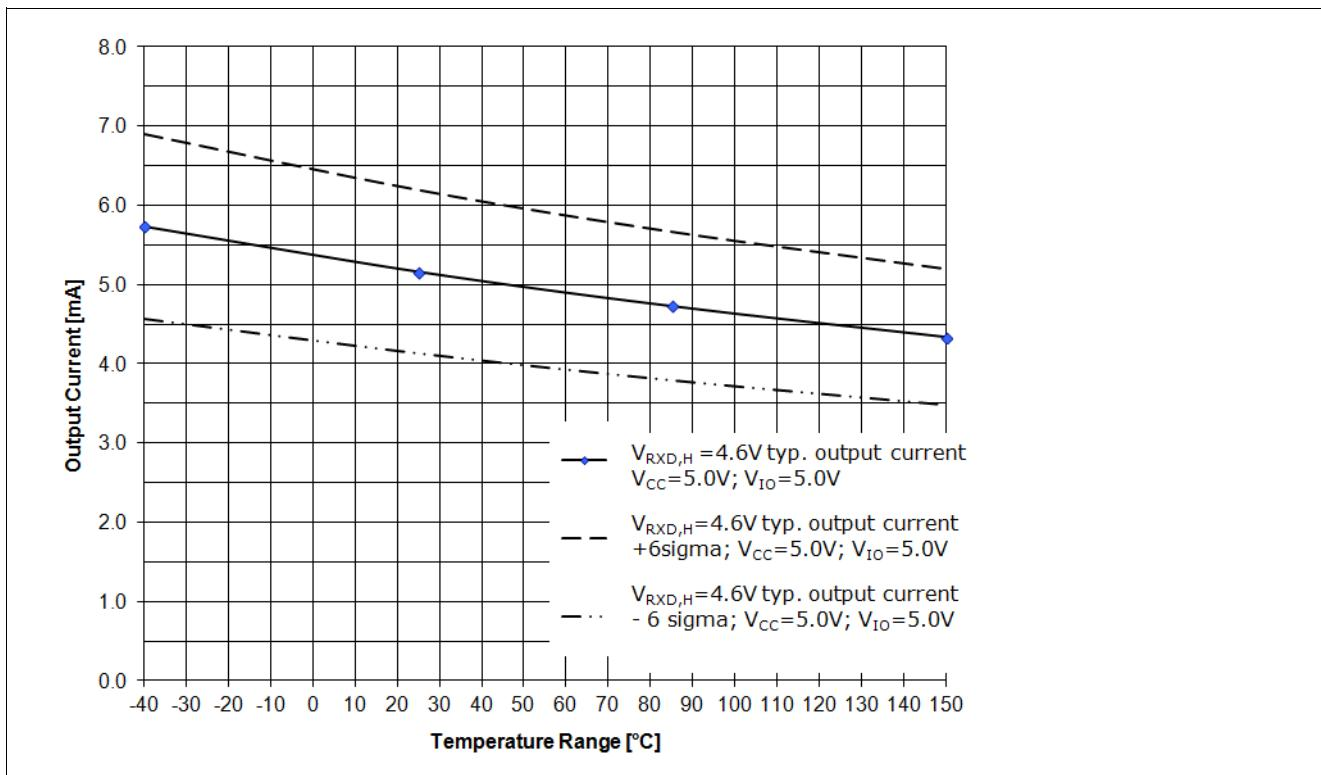
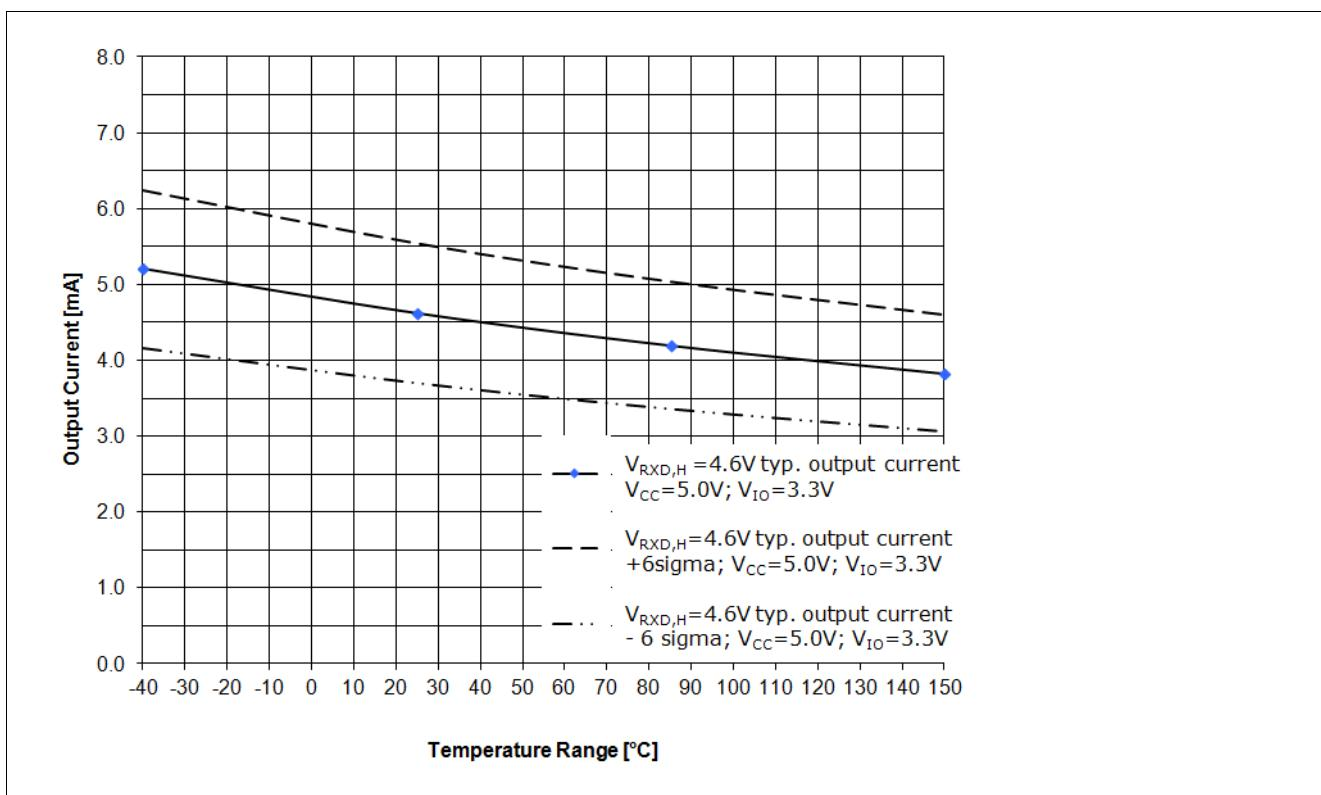

Figure 11 RxD Output driver capability for a logical “High” signal $V_{RxD,H}=4.6\text{ V}$, $V_{CC}=5.0\text{ V}$, $V_{IO}=5.0\text{ V}$ ¹⁾
Figure 12 RxD Output driver capability for a logical “High” signal $V_{RxD,H}=4.6\text{ V}$, $V_{CC}=5.0\text{ V}$, $V_{IO}=3.3\text{ V}$ ¹⁾
The diagram in Figure 11 shows the output current capability of the RxD output pin depended on the chip temperature T_J at a V_{IO} power supply of 5.0 V. Figure 12 shows the output current capability of the RxD output pin at a V_{IO} power supply of 3.3 V.
- The curve “ $V_{RxD,H} = 4.6$ V; typ. output current; $V_{CC} = 5.0$ V; $V_{IO} = 5.0$ V;” displays the typical output current at the RxD output pin of the TLE8250GVIO (see Figure 11).
- The curve “ $V_{RxD,H} = 4.6$ V; typ. output current + 6 sigma; $V_{CC} = 5.0$ V; $V_{IO} = 5.0$ V;” displays the expected maximum value of the output current at the RxD output pin (see Figure 11).
- The curve “ $V_{RxD,H} = 4.6$ V; typ. output current - 6 sigma; $V_{CC} = 5.0$ V; $V_{IO} = 5.0$ V;” displays the expected minimum value of the output current at the RxD output pin (see Figure 11).
- The curve “ $V_{RxD,H} = 4.6$ V; typ. output current; $V_{CC} = 5.0$ V; $V_{IO} = 3.3$ V;” displays the typical output current at the RxD output pin of the TLE8250GVIO (see Figure 12).
- The curve “ $V_{RxD,H} = 4.6$ V; typ. output current + 6 sigma; $V_{CC} = 5.0$ V; $V_{IO} = 3.3$ V;” displays the expected maximum value of the output current at the RxD output pin (see Figure 12).
- The curve “ $V_{RxD,H} = 4.6$ V; typ. output current - 6 sigma; $V_{CC} = 5.0$ V; $V_{IO} = 3.3$ V;” displays the expected minimum value of the output current at the RxD output pin (see Figure 12).